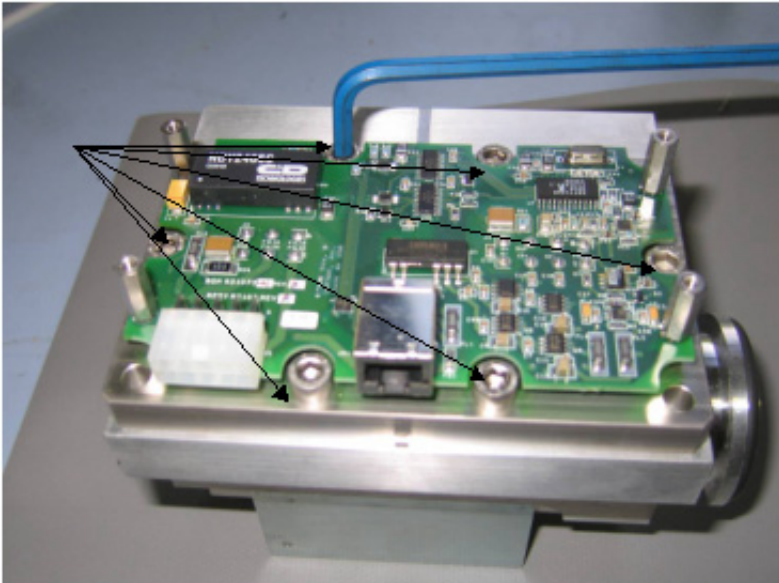

Figure 6: Spectrometer Header Assembly Screws
7. Using an M5 allen wrench, remove the six screws holding on the spectrometer header assembly (Figure 6: Spectrometer Header Assembly Screws).